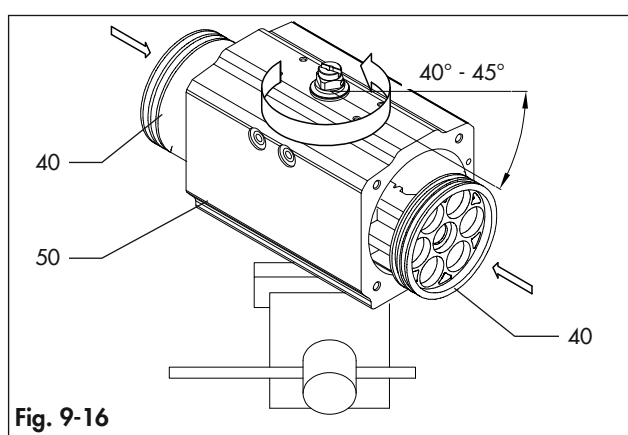

Fig. 9-16
- Rotate the body (50) about 40°-45° clockwise from top view, as shown in Fig. 9-16.
- Insert and press the two pistons (40) simultaneously inside the body (50) until the pistons are engaged.
- Then rotate the body (50) anticlockwise from top view until the stroke is completed.